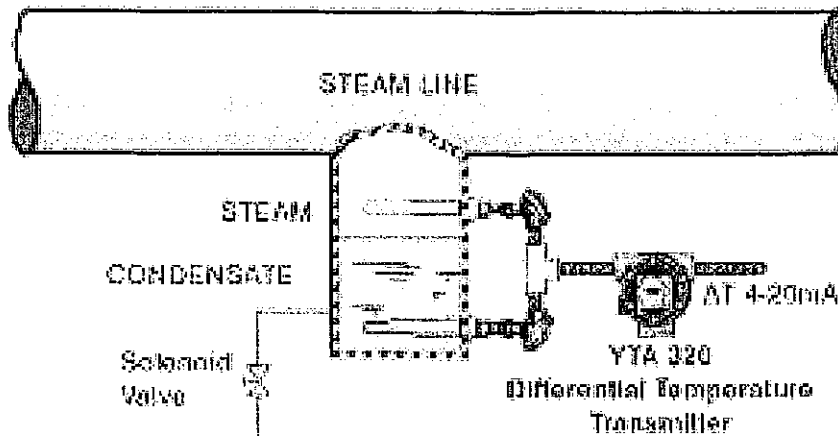

Figure 3: Application of pressure gauge in industry
(a) Figure 3 shows the application of Pressure Gauge in steam line. Identify **FIVE (5)** parameters that should be concerned when selecting a Pressure Gauge.